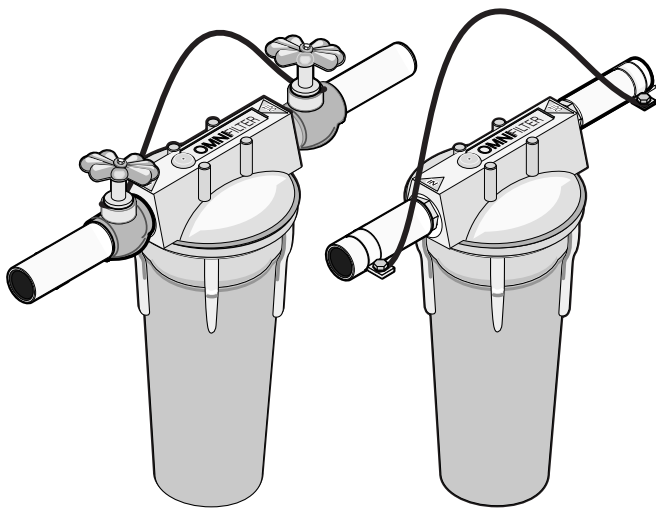

Figure 1
**⚠ WARNING** Risk of electrical shock. If your water pipes are used to ground your house's electrical system, install a No. 8 AWG (8.4mm2) jumper wire (or larger) around the filter (see Figure 1). The jumper wire must be connected at both ends by a pressure wire fitting or other connection that satisfies NEC or CEC and local codes. Consult a building inspector or licensed electrician for more information.